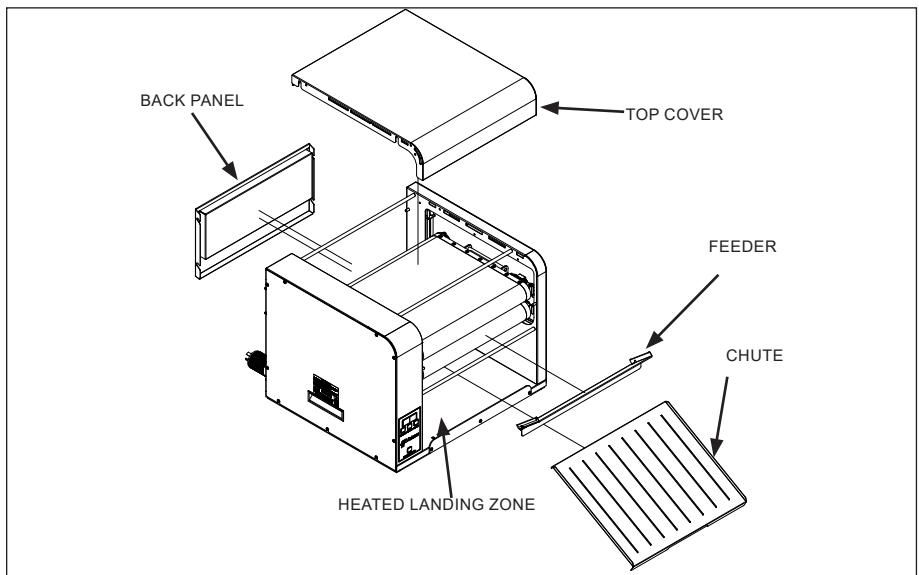

Figure 3. Components
chute (Figure 3).
2. Put on heat resistant gloves. Remove the Top Cover, Feeder, and Chute (Figure 3).
7. Reinstall all accessories (Figure 3). Turn the unit on and test the unit before returning it to operation.
3. Wearing heat resistant gloves, remove the Top Cover, Feeder, and Chute and set aside (Figure 3).